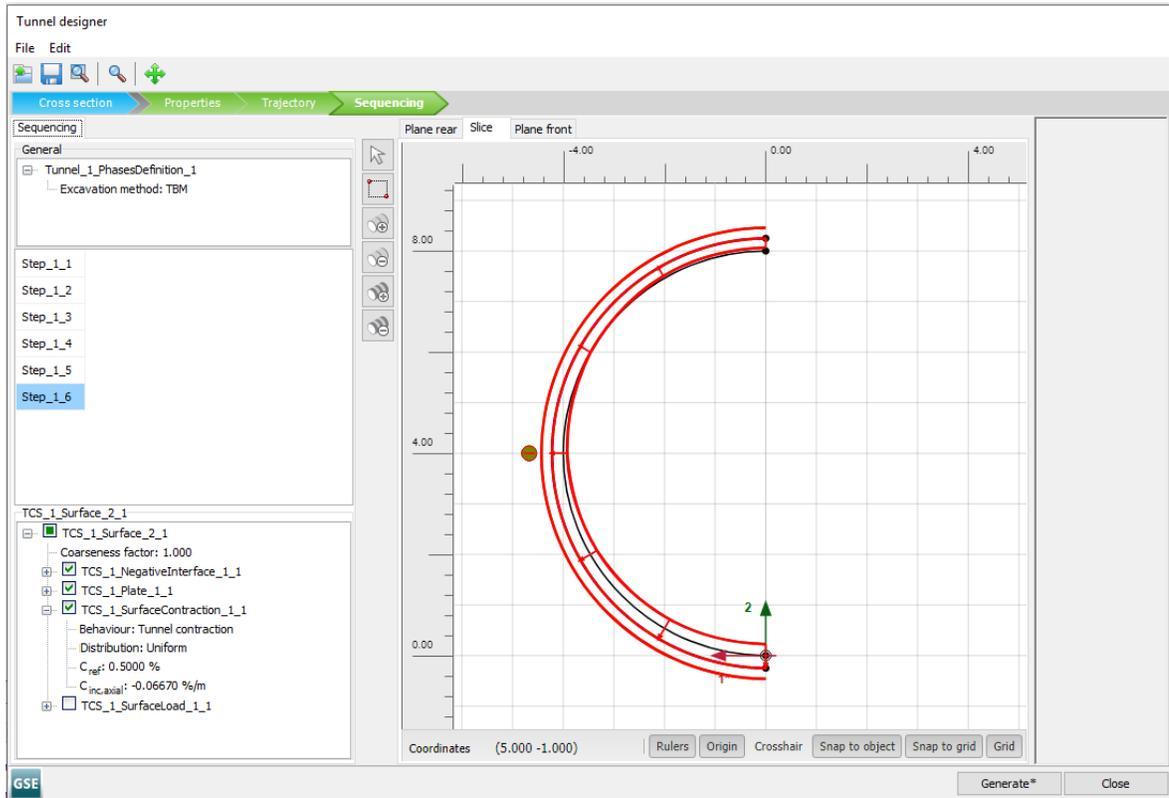

Figure 72: Slice tabsheet in the *Tunnel designer* for Step_1_6
- In the **Selection explorer** select from the **Surface contraction > Distribution** the *Uniform* option with $C_{ref} = 0.5\%$ (Figure 72 (on page 98)).